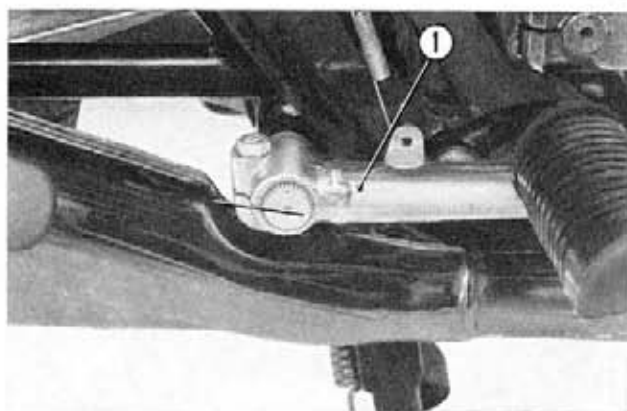

Fig. 14-19 ① Rear brake pedal
4. Install the rear brake pedal and tighten the setting bolt. (Fig. 14-19)